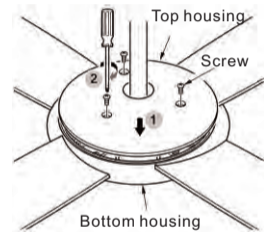

Fig.11
Step 5: Assemble the top housing back with bottom housing. (fig.11)